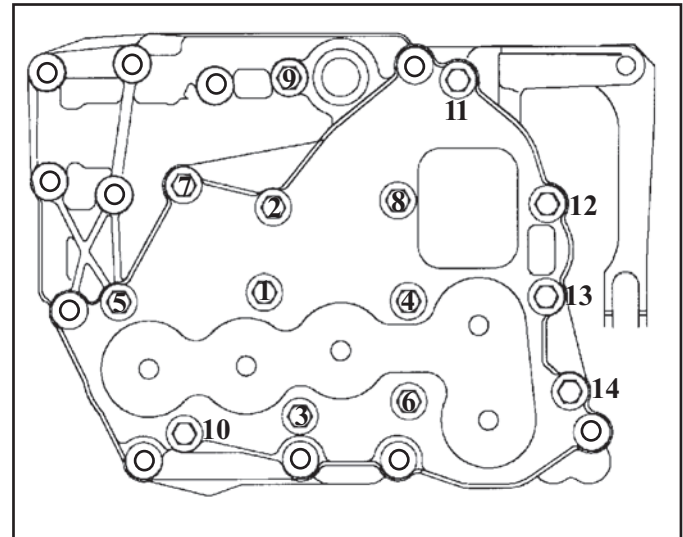

Figure 188
24. Torque all 14 bolts to 11. Nm (97 in. lbs.) in the numerical sequence shown in Figure 188.